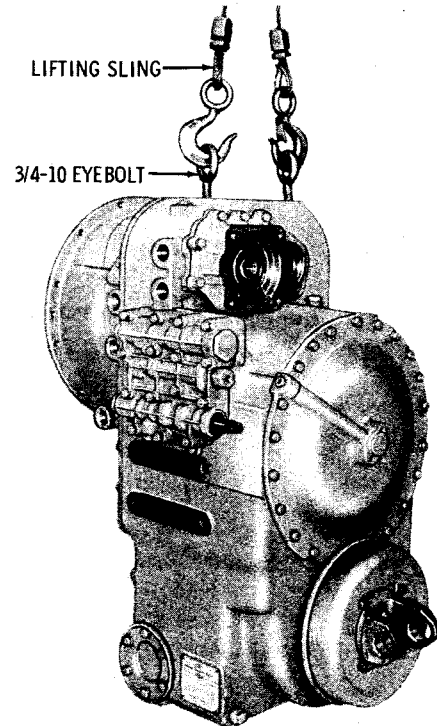

Fig. 5-1. Lifting transmission
b. Lifting, Handling. All Allison Twin-Turbine transmissions have two 3/4-10 tapped holes in the top of the transmission housing. Eye bolts may be installed into these holes to provide a means of supporting or positioning the transmission housing during disassembly (fig. 5-1).